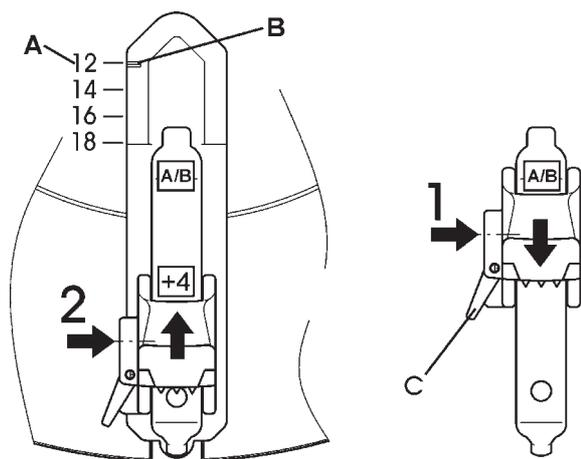

Fig. 13.b
The turntable jaws can be positioned in two different ways (Fig. 13.b).
MAKE SURE ALL FOUR CLAMPING JAWS ARE MOUNTED IDENTICALLY (1 OR 2, FIG. 13.b). OTHERWISE THE RIM MAY COME LOOSE AND INJURE THE OPERATOR!
Rim diameters are shown in inches on the turntable (A, Fig. 13.b). The diameter setting (mark on jaw (B) must coincide with mark on turntable) depends on the clamping jaw position 1 or 2.
- In jaws position 1 the diameter is preset directly (1, Fig. 13.b).
- In position 2 (2, Fig. 13.b) 4" must be added to the diameter.
Les mors de l'autocentreur peuvent être positionnées de deux façons différentes (Fig. 13.b).
VEILLER A CE QUE TOUS LES QUATRE MORS DE SERRAGE SE TROUVENT DANS DES POSITIONS IDENTIQUES (FIG. 13.b, POS. 1 OU 2). SINON, LA JANTE PEUT TOMBER DU MANDRIN ET BLESSER L'OPERATEUR!